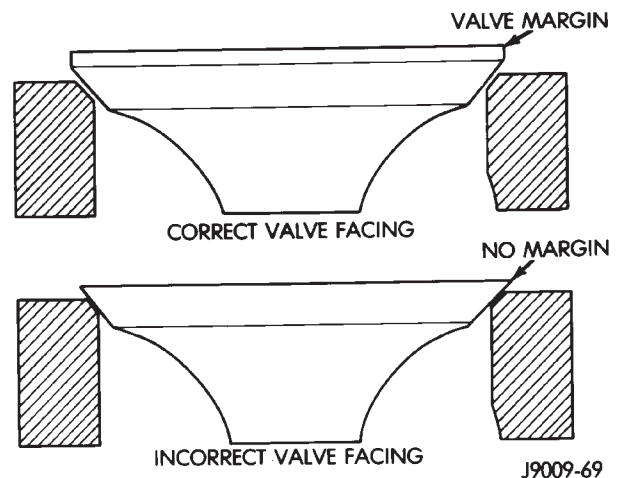

Fig. 6 Valve Facing Margin
(1) Use a valve refacing machine to reface the intake and exhaust valves to the specified angle.
(2) After refacing, a margin of at least 0.787 mm (0.031 inch) must remain (Fig. 6). If the margin is less than 0.787 mm (0.031 inch), the valve must be replaced.